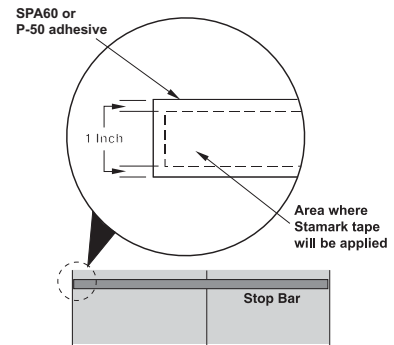

Figure 16
- If using SPA60 or P-50 for an intersection or and transverse making - including legends and symbols - evenly apply one coat of adhesive to the road surface using a solvent-resistant roller with a minimum 3/8-inch nap to a maximum 3/4-inch nap. The coating on the pavement must extend at least one inch (2.5 cm) beyond the premarked area. (See Figure 16.)